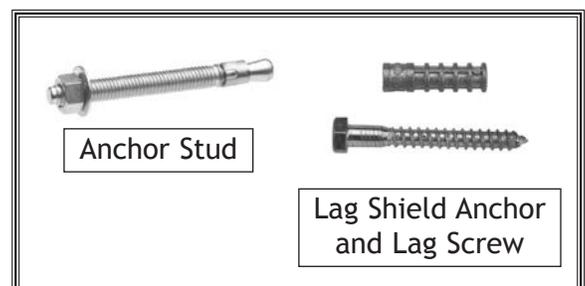

Figure 11. Typical fasteners for mounting bracket to masonry or concrete walls.
- If mounting to a concrete or masonry wall, attach bracket using lag shield anchors with lag screws or anchor studs (see **Figure 11**).